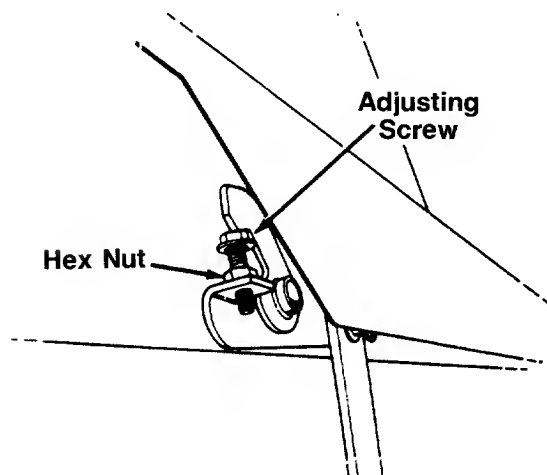

FIGURE 11.—Models 1002 and 1208
3. If adjustment is needed, loosen the hex nut on the adjusting screw, located under the right side of the frame. See figure 11. Move the adjusting screw inward to lower the right side of the deck, or outward to raise the right side of the deck.